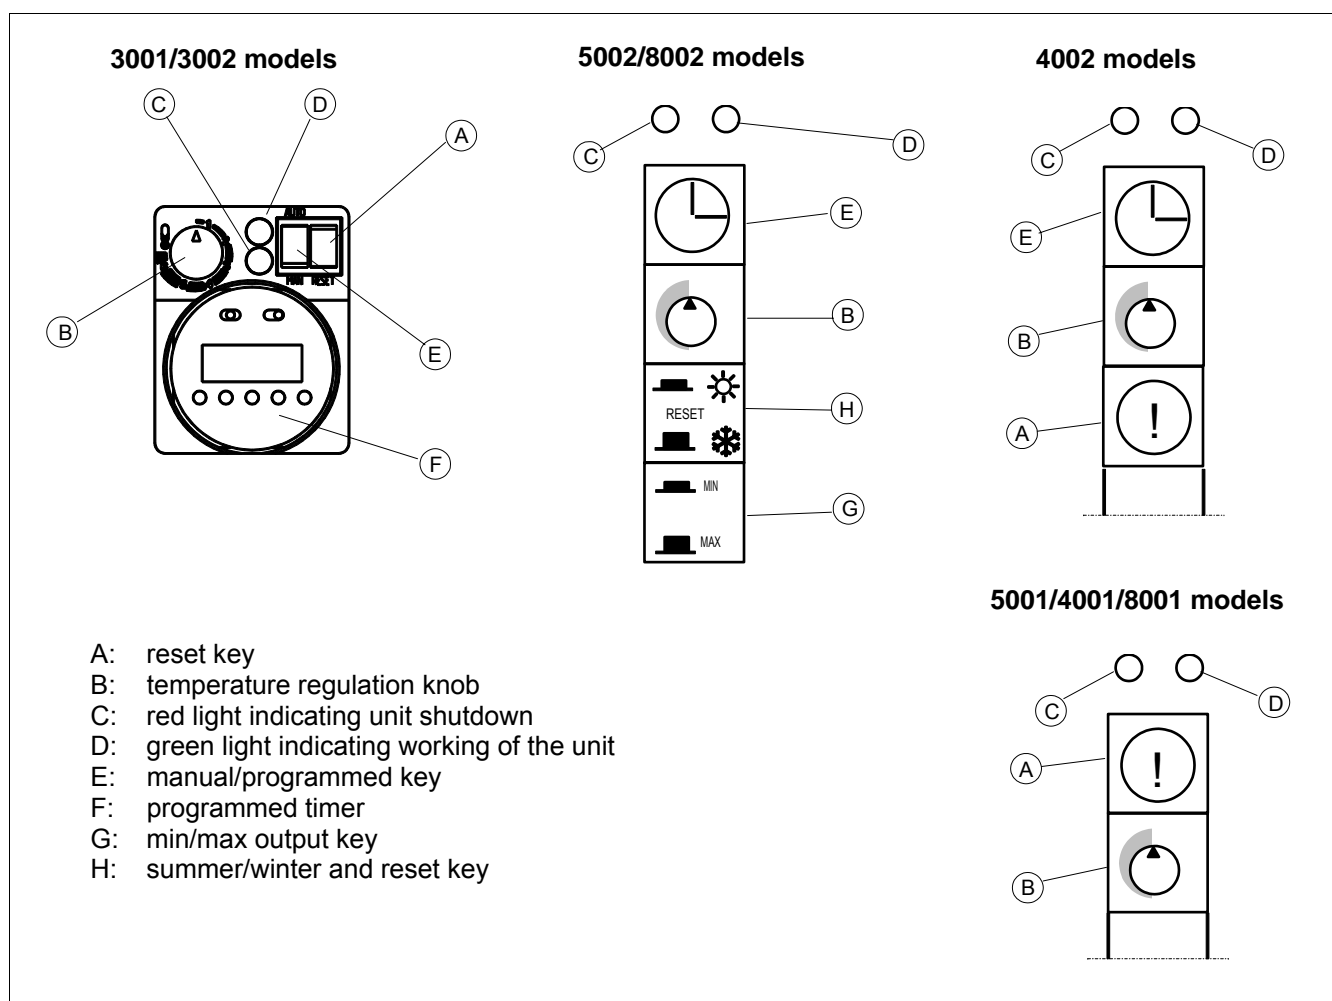

Figure 32 – MAIN PANELS
1. Shift the summer/winter key pad to a winter position - released (see Figure 32).
7. Press the min/max key (see Figure 32). In the way the unit will reach the pressure level for reduced output.
3. For models 3002, 4002, 5002 and 8002 set the timer according the end user specific requirements (see "programmed timer" section). Set "E" key (see Figure 32) manual/programmed on the desired system of operation of the unit (loose key - MAN position in case the unit is required to operate through the room thermostat or pressed key - AUTO position in case the unit is required to operate also by means of the programmed timer).
4. Turn the B knob for temperature regulation at the highest desired temperature (see Figure 32).
By pressing the summer/winter H key (see Figure 32), only the fan starts working. This will allow a light and pleasant ventilation of the ambient air.